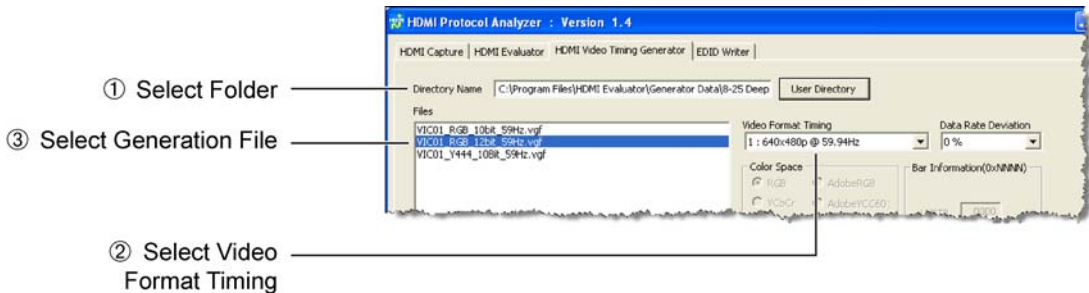
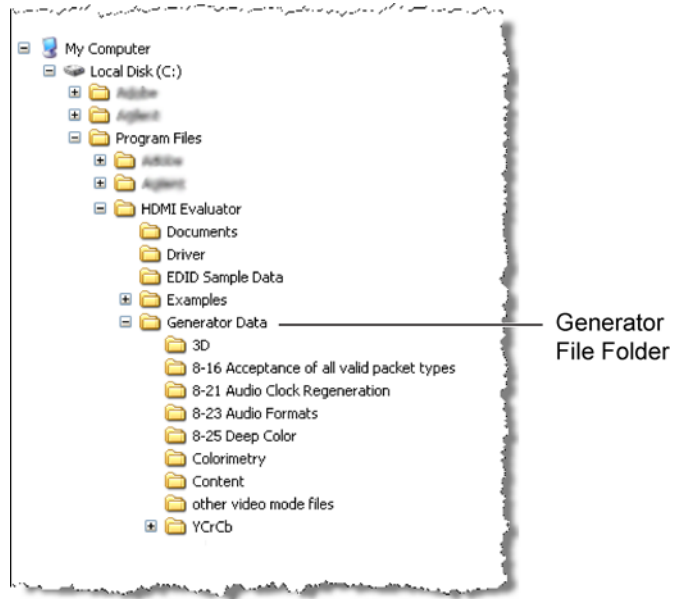

Figure 31 Selecting the Video
Figure 32 Location of Video and Audio Generator Files
- 3 Click User Directory (1 in Figure 31) and select the folder that contains the video generator files. Figure 32 shows how the generator file folders are organized in according to tests or types of video.